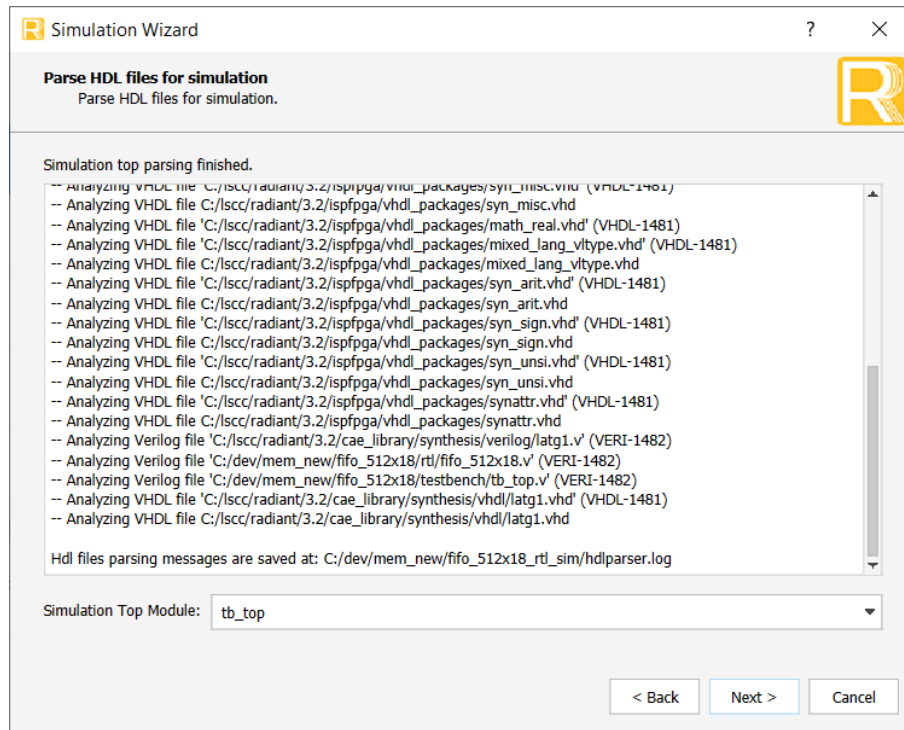

Figure 3.7. Simulation Wizard Parse HDL files for simulation
8. Click **Next** to open the **Parse HDL files for simulation**. Set **tb_top** as the **Simulation Top Module** as shown in Figure 3.7.